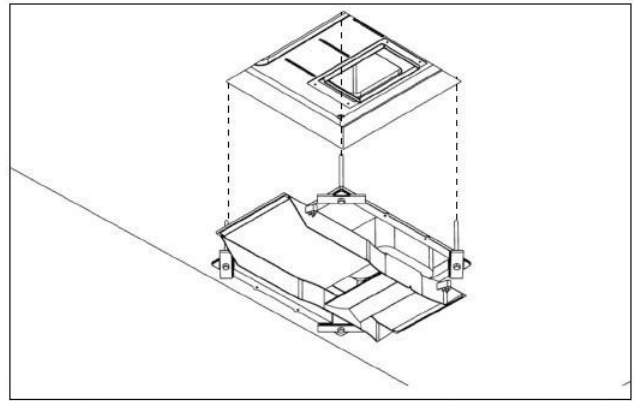

Fig 11: Raise the duct assembly up to the roof hole, ensuring the paper extension duct work forms a tight fit around the spigot underneath the unit.
- Turn the assembly over and add the extension duct to the top of the assembly (Fig 11).